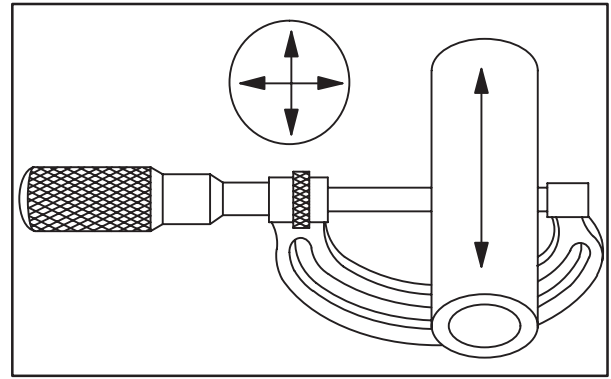

Fig. 6
1. Measure piston pin, **Fig. 6**. Replace pin if worn beyond reject dimension or **0.0005" (0.01 mm)** out of round.